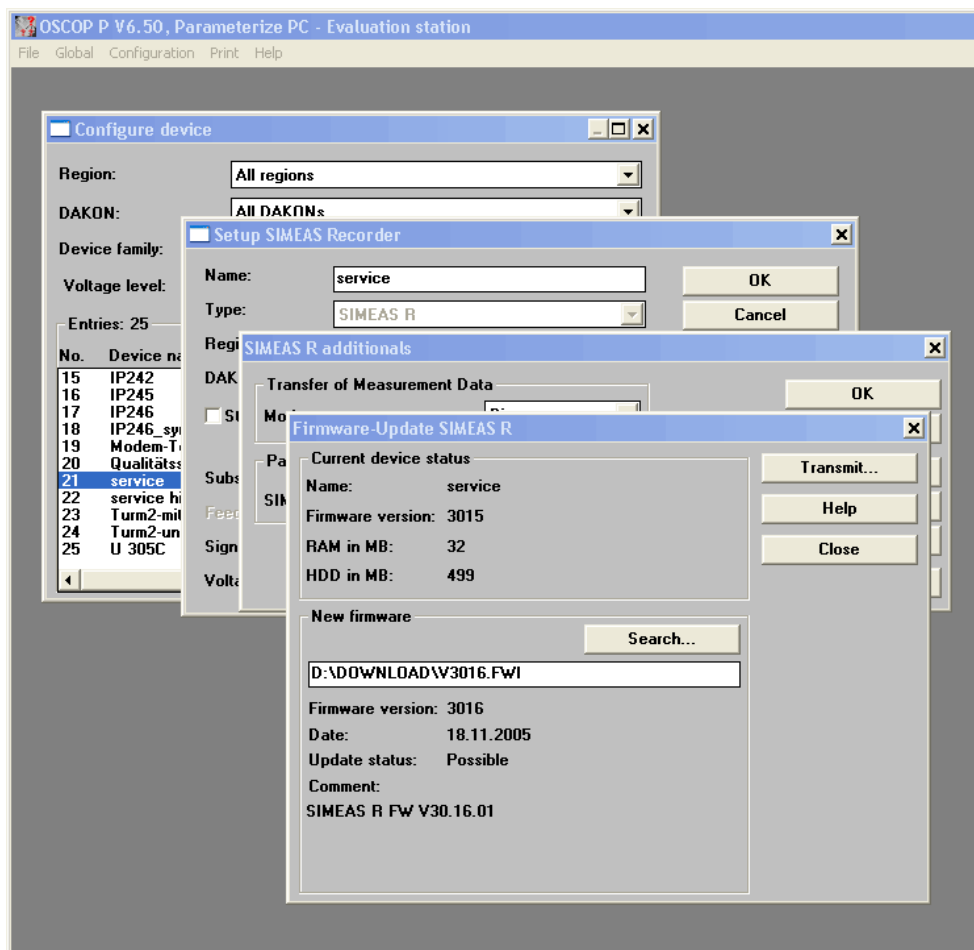

Figure 3: Firmware update via OSCOP P version 6.50.19
- Select the menu **Configuration** sub menu **Devices**.... A dialog named **Configure device** will appear (refer to Figure 3).
- OSCOPE P connects to the device automatically and determines the installed firmware version and the memory size. Go to the area **New firmware** and **Search...** for the file V3016.FWI (in Figure 3: D:\DOWNLOAD\V3016.FWI).